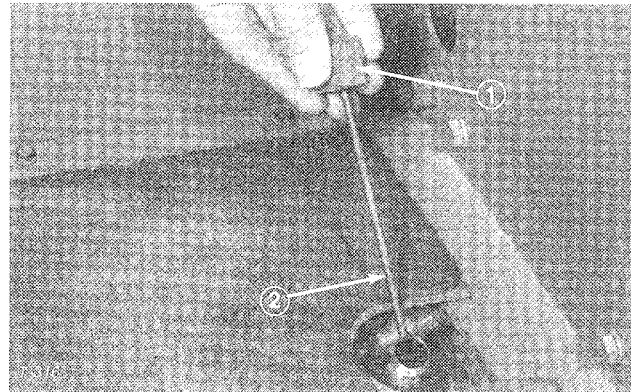

Figure 19
2. Unscrew dipstick cap (Fig. 19) from the filler neck and wipe it with a clean rag. Screw dipstick cap fingertight onto filler neck. Unscrew the dipstick and check level of oil. If level is not within 1/2 inch (13 mm) from the groove in the dipstick (Fig. 19), add enough oil to raise level to groove mark. DO NOT OVERFILL by more than 1/2 inch (13 mm) above groove.